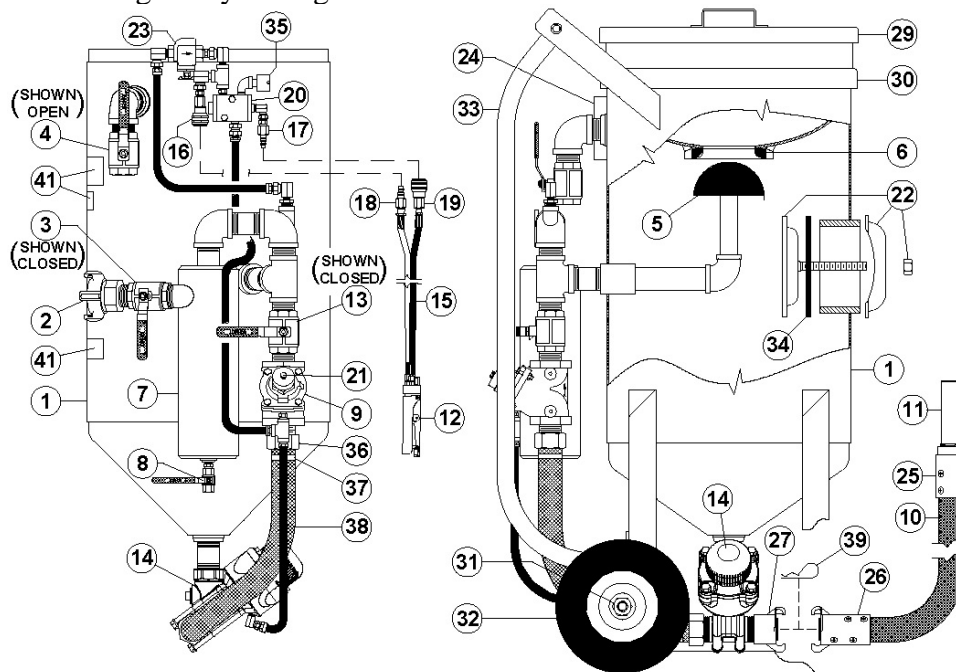

Figure 7.3 – Thompson Valve Abrasive Blaster with pneumatic blast controls
7.3 Ending the Blast Operation (See Figure 7.3)
- 7.3.1. Close the air inlet ball valve (#3). The ball valve is closed when the handle is fully turned to the position shown in Figure 7.3 (handle perpendicular to body). The handle tab will bottom against the ball valve body in the closed position.